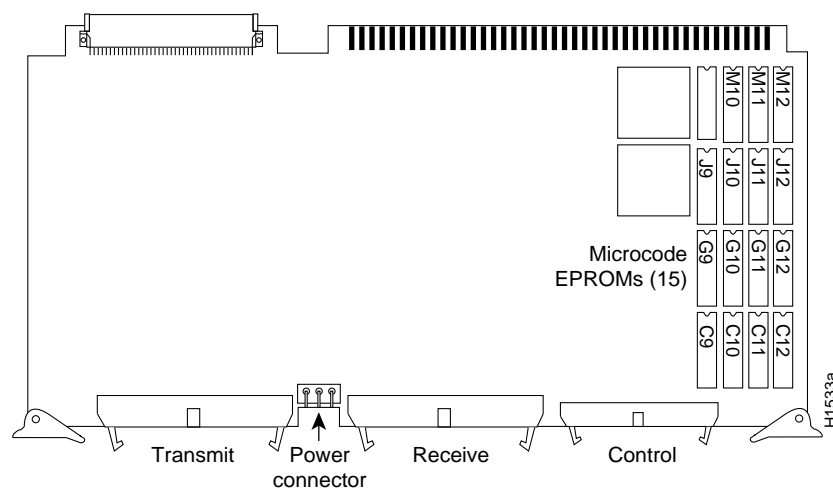

Figure 1 CSC-HSCI Controller Type 5.1—Component-Side View
- Step 6** Refer to Figure 1 for the socket locations of the 15 components to be replaced. Refer to the following for component part numbers:
- Step 7** Insert the new components into the appropriate sockets, as shown in Figure 1 and listed in the tables. Align the notch on the component with the notch on its socket as shown.
- If a ciscoBus controller LED still fails to come on for an HSCI card you just reinstalled, remove the card and check the microcode components for bent pins and misaligned notches. Ensure that the components are installed with the notched edge at the correct end of socket, as shown in Figure 1.